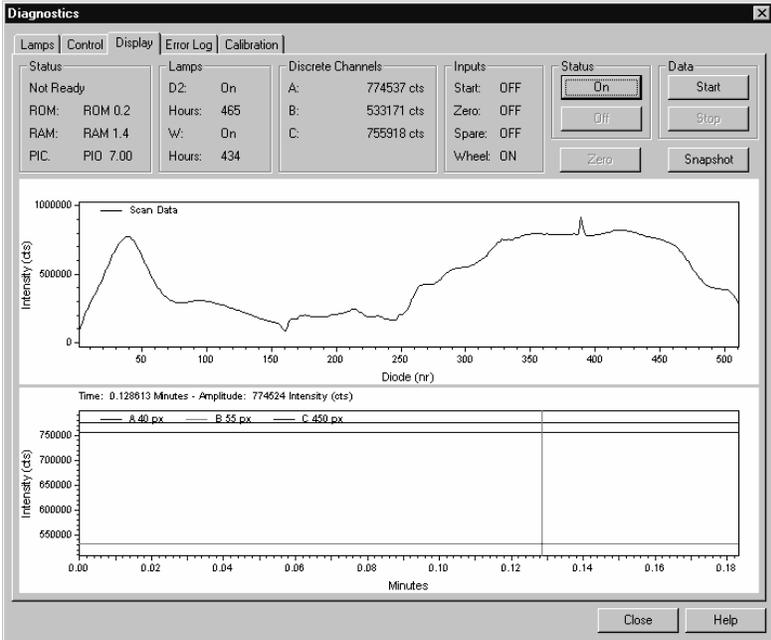

Figure 4.4 Intensity scan with both lamps
18. Repeat the above steps to display the emission intensity spectrum of the tungsten - halogen (W) lamp. See Figure 4.4. Set the individual channels to monitor pixels 219, 302, and 427.